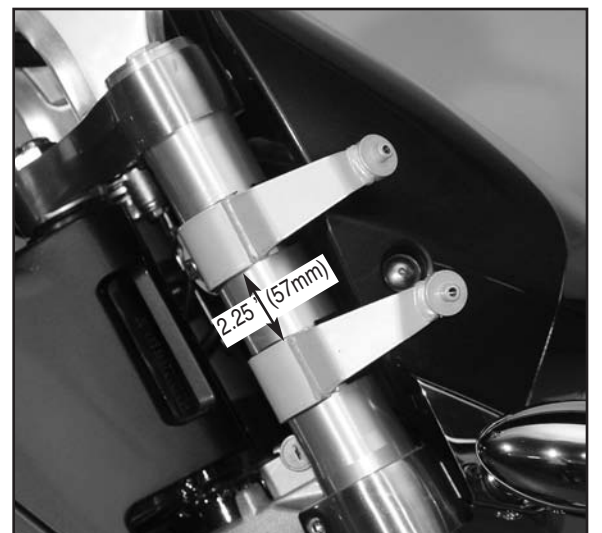

Figure 8
6. Hook the **RIGHT SIDE upper mount bracket** (4) to the inside clamp. Space between the lower and upper mounts will be 2.25" (57mm). **Figure 8**
8. Adjust upper mount assembly to complement lower. Final adjustment will be done when windscreen is installed. **Figure 8**